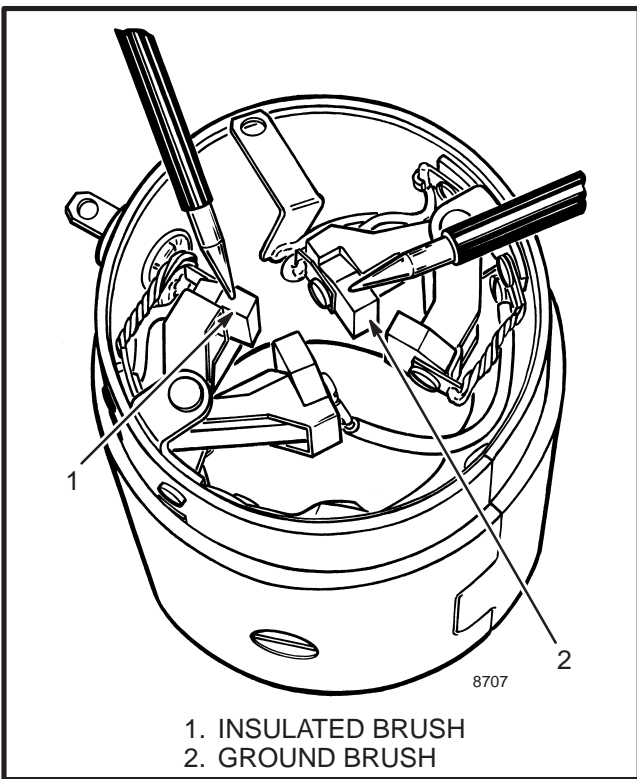

FIGURE 9. FIELD COIL GROUND TEST
e. Test for a ground in the field coil circuit. See FIGURE 9. Touch one wire of an ohmmeter to the field frame and the other to the field coil brushes. On some models it is necessary to disconnect the field ground strap. The field coils have a short-circuit to ground if the ohmmeter indicates a complete circuit.